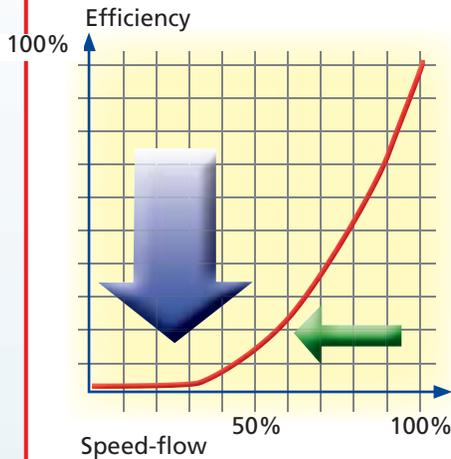
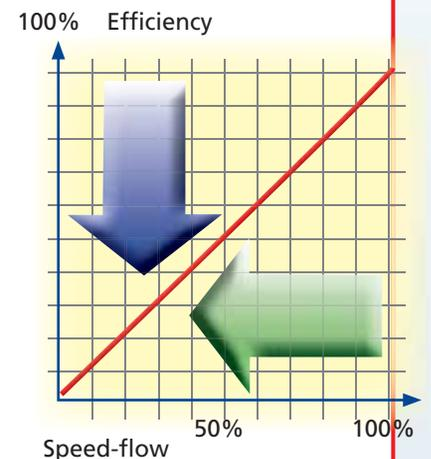

Fig. 1
Fig. 2
d'impianto. Questo perché nelle macchine fluidodinamiche (pompe centrifughe e ventilatori) la relazione tra potenza assorbita e velocità è di tipo cubico; quindi pochi Hz in meno significano molti meno Kw consumati (vedi fig. 1). L'utilizzo di un convertitore di frequenza per il controllo di un motore, consente un risparmio energetico anche in applicazioni a coppia costante (vedi fig. 2).
*Imagine having to drive a car with the accelerator pedal to the maximum and adjusting the speed of the vehicle pushing on the brake pedal. Obviously this would require a waste energy not tolerable. With a variable speed adjustment, however, are obtained sensitive energy savings, optimizing the functions of the plant. This is because the fluid mechanical machinery (centrifugal pumps and fans) the relationship between power consumption and speed is a cubic diagram, so few Hz less mean less Kw consumed (see fig. 1). Using a frequency converter for controlling an engine, saves energy in constant torque applications (see fig. 2).*